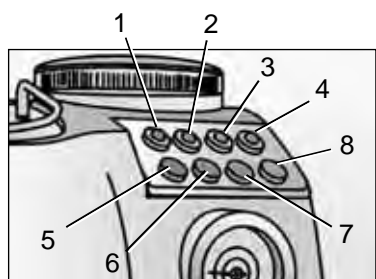
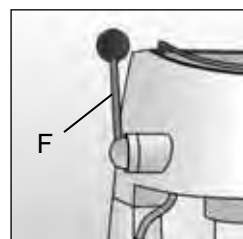

Fig. 2
Fig. 3
- Press the main switch (5) Fig. 2; the power light (1) will light up and light (2) will start blinking until the operating temperature has been reached. Lower the water/steam lever (Fig. 3 - F), and, at the same time, press the coffee brewing button (6) thus bleeding any air or water out of the circuit. Fill up at least a cupful of water. Lift the water/steam lever (F) back up and stop the brewing cycle by pressing the coffee button (6).
- 2) "Dispenser/Measuring Device" (N) Fig. 9. Keep the switch (8) Fig. 2 pressed until the ground coffee Dispenser is full: operate the Measuring Device lever once or twice, according to how many cups of coffee you wish to prepare, and keep the filter ring inserted into the fork. To release, pull the devices (M) or (N) in your direction.
Check the water level in the tank (H). Make sure that the water tank is correctly placed into its position. Measure the coffee in the filter ring Fig. 8 with the supply device that you have chosen and slightly press it Fig. 10. Tighten the filter holder firmly by ensuring it is securely fitted against the flange Fig. 14. If an excessive amount of ground coffee is placed into the filter, turning the filter holder may become difficult, and/or coffee may leak from the filter holder when drawn. The appliance will be ready for use, as soon as light (2) Fig. 2 stops blinking and stays lit. Then press the switch for the outflow of the coffee (6). Press it again (6) to stop the coffee outflow. The maximum dose for one coffee is 50 ml.